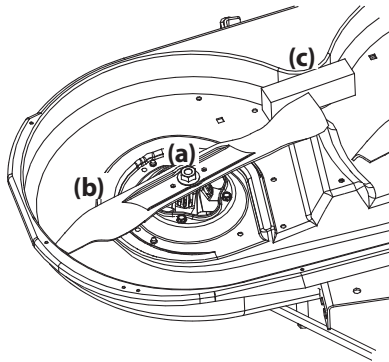

Figure 4-17
2. Use a $\frac{1}{2}$ " wrench to hold the hex nut on top of the spindle assembly when loosening the hex nut (a) securing the blade (b). A block of wood (c) may be placed between the deck housing and the cutting edge of the blade (b) to help in breaking loose the hex nut (a) securing the blade. See Figure 4-17.